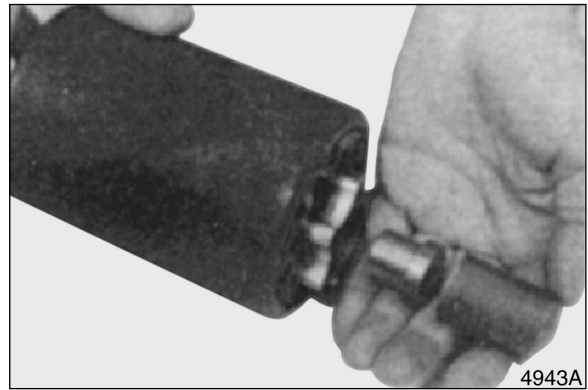

Figure 13
- Remove spacer bushing and spacer from cylinder gear (If equipped). See Figure 13.